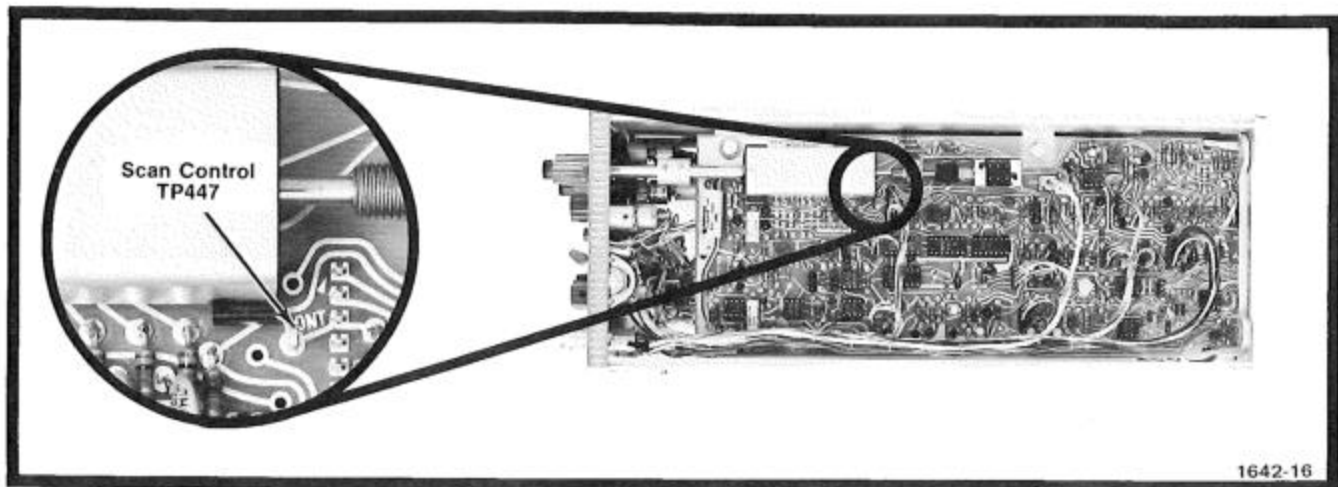

Fig. 5-11. Location of Scan Control test point TP447.
d. Connect the +B Gate output connector of the test oscilloscope to the Scan Control test point TP 447 (see Fig. 5-11) on the Horizontal Circuit Board of the 7J20 via a 42-inch, 50 Ω , BNC coaxial cable and a BNC to alligator clips adapter. Connect the red alligator clip to TP 447 and the black clip to a convenient ground point.